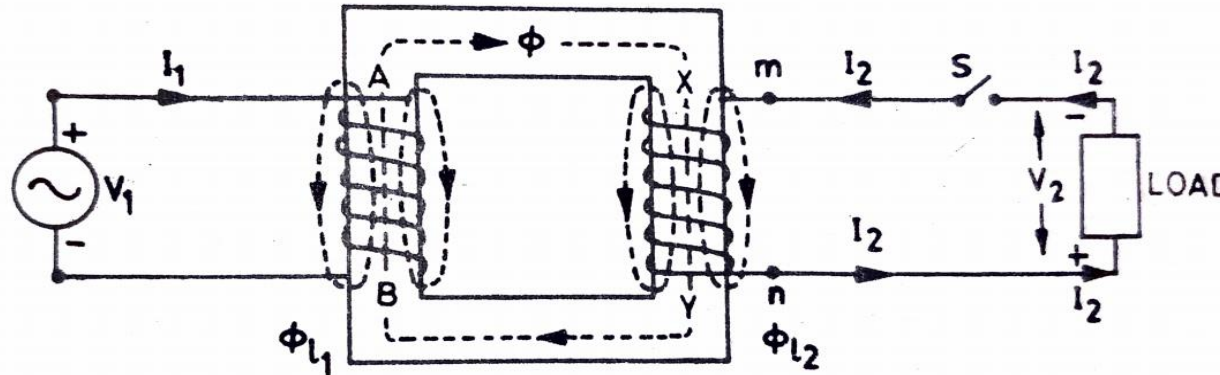

Fig. 8.13
- ✓ When switch S of the circuit as shown in **Fig. 8.13** is closed, secondary current I_2 starts flowing from terminal n to the load.